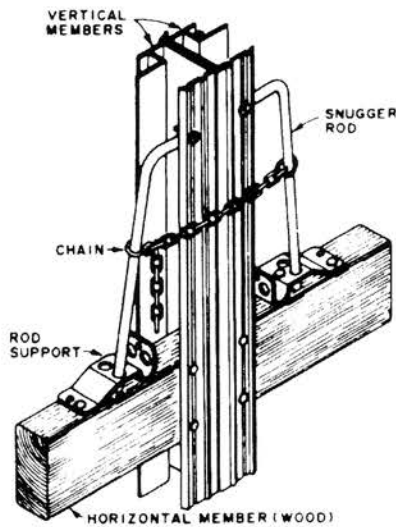

Figure 11
Slip the larger link on the end of the chain over the snugger rod and insert snugger rod into the rod support. Secure the opposite end to vertical member using (1) $1/4$ " fastener and nut as shown. Figure 11.
To latch the two doors together, merely hook the "S" hook onto the snugger rod as shown. The more the door rattles, the tighter the latch becomes. After making certain the "S" hook is in the proper link (latched chain should be about 6" from top of horizontal member), close the "S" hook slightly so it will not become detached from the chain. Figure 11.